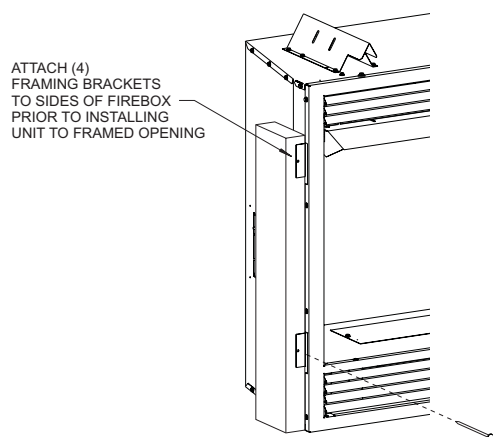

Figure 8
Place firebox in framing opening. Use the four (4) framing brackets provided on the firebox to attach firebox to framing. Different hole locations can be used for finishing materials with thicknesses of 3/8", 1/2" and 3/4". Attach these materials with screws provided, two (2) per framing bracket. **See Figure 8.**